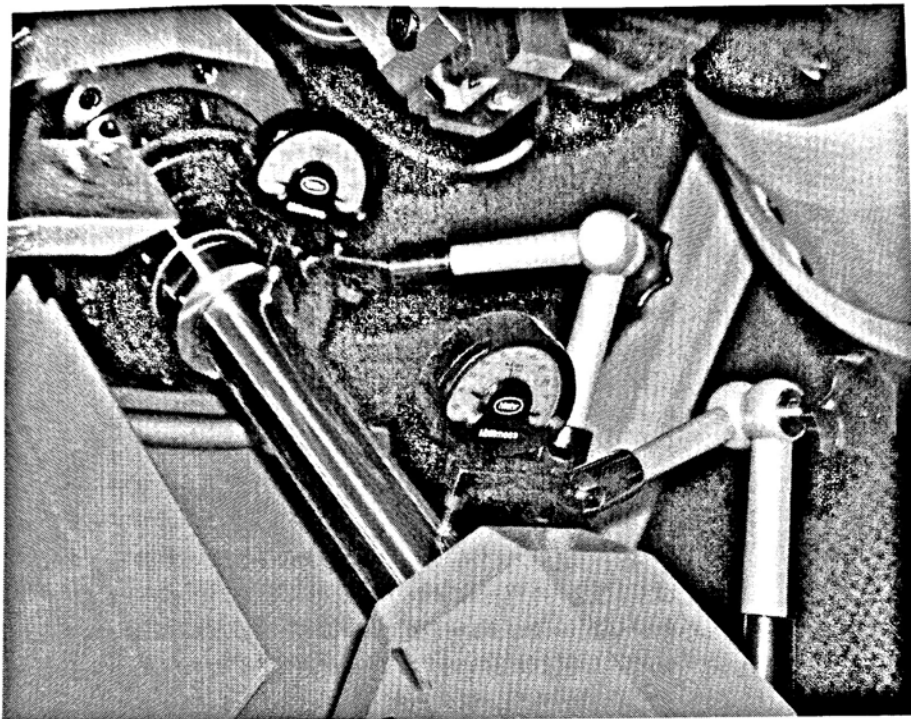

Figure 9 Measuring radial run-out with clamped main and counter-bearing
- Place dial gauges against the measuring arbor (see figure 9)